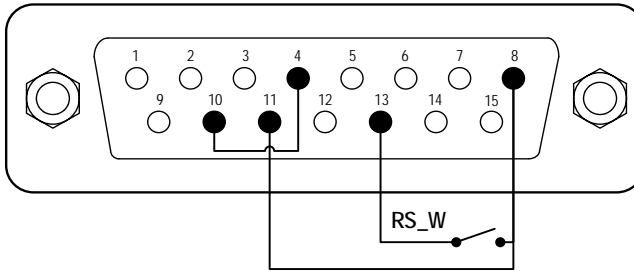
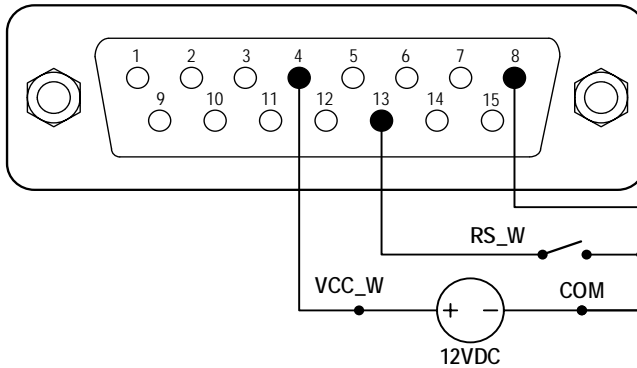

Figure 19. Footswitch with internal 12V Power Source
Figure 20. Footswitch with External 12V Power Source
- 1) Switch the power off. Wire the DB15 connector as shown on *Figure 19* or *Figure 20*, and connect it to the DB15 port on the rear of the pump.